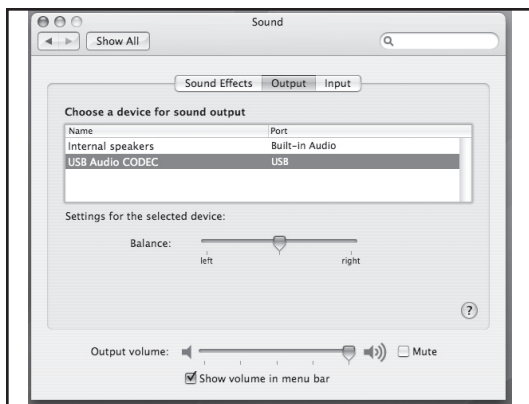

Figure 11
5. Next, click in the Output tab and select USB Audio Codec (figure 11). You may notice that the Volume slider sets itself to the full level. This will allow you to have full range using the L Series' hardware MAIN Volume control.